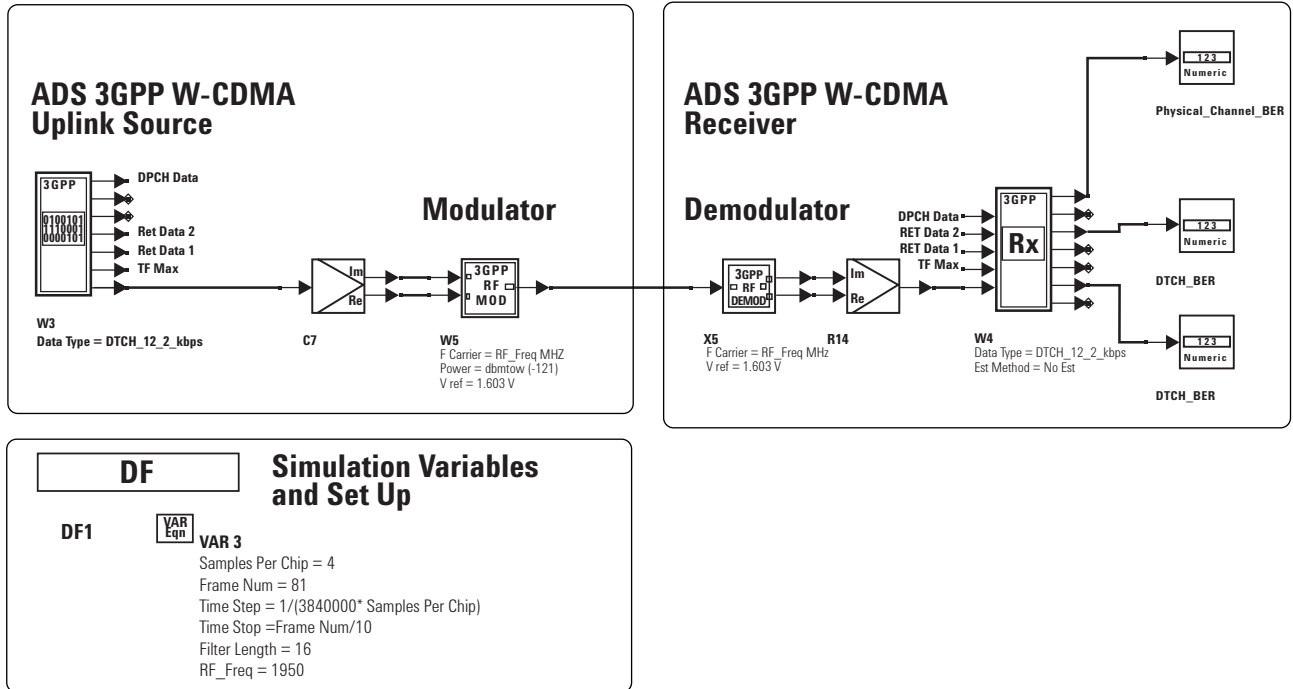

Figure 34. ADS Schematic to Simulate BER (no measured data).
Step 8. Compare Connected Solution BER with Simulation BER. The schematic shown in Figure 34 is simulated to compute the physical and coded BER for simulation-only data. This will allow the connected solutions BER results to be compared with simulation-only BER results.